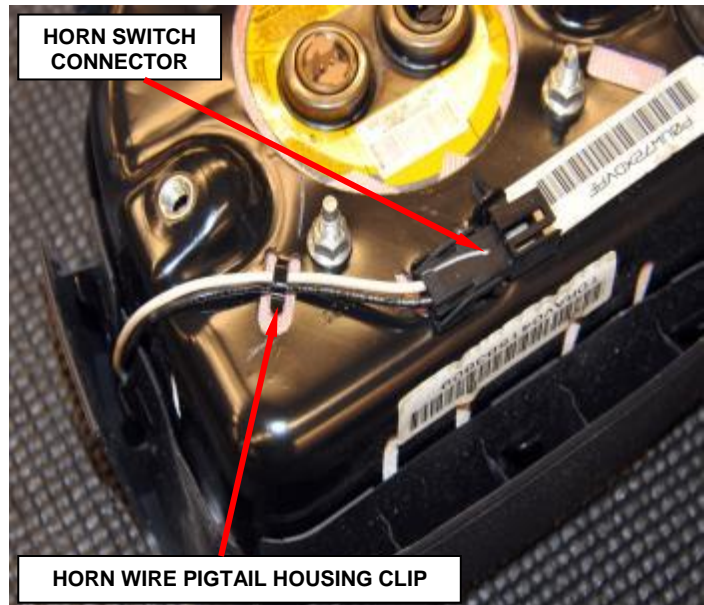

Figure 19 – Horn Connector
10. Remove the horn switch connector from the housing (Figure 19).
11. Remove the horn wire pigtail from the housing clip (Figure 19).